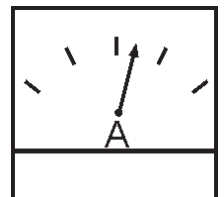

Figure 54. Ammeter (Load)
18. Observe the generator's ammeter (Figure 54) and verify it reads the anticipated amount of current with respect to the load. The ammeter will only display a current reading if a load is in use.
2. Place the **MPEC Control Switch** (Figure 54) in the **AUTO** position .